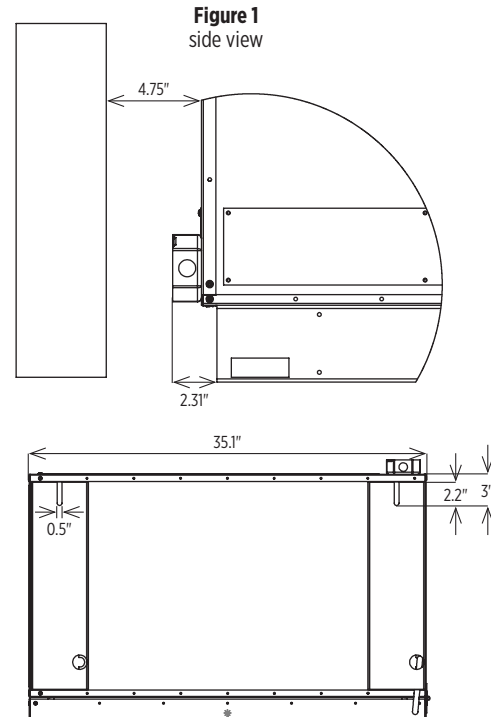

Figure 2
- Making sure that there will be a minimum of 4-³/₄ inches (12.1 cm) from the back of the oven to the nearest wall or obstacle (see Figure 2), sink two ackermanns into the floor a minimum of 35-¹/₈ inches (89.2 cm) apart. **Note:** Make sure the hold-downs will reach the oven.